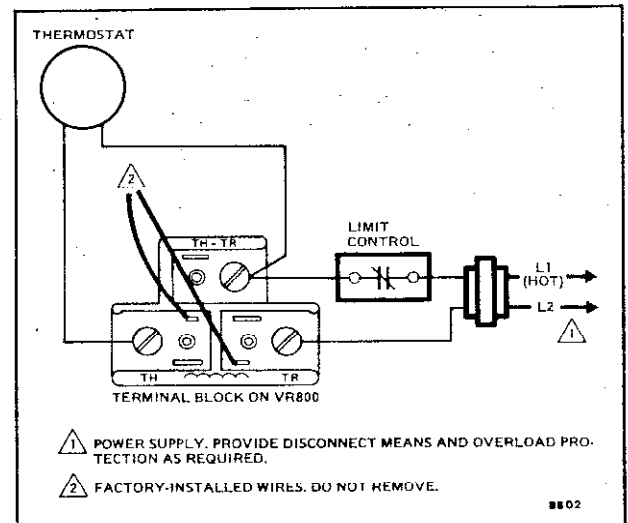

Fig. 3—Typical wiring diagram for 24 V system.
WIRING 24 VOLT MODELS (FIG. 3)
2. Connect control circuit to operator terminals. See Fig. 3 for typical wiring diagram.